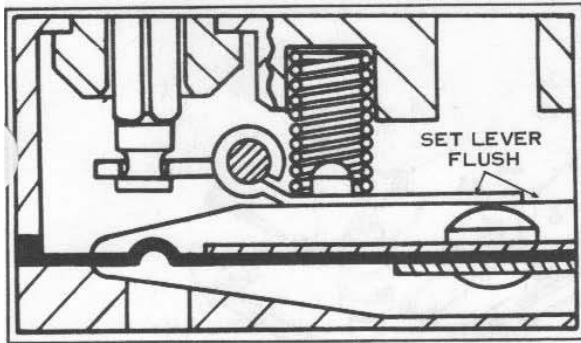

Figure 3-69
9. Inspect inlet needle lever for correct adjustment. It should be flush with surrounding floor of carburetor body. Tighten seat to 45 in-lbs torque. See Figures 3-69.